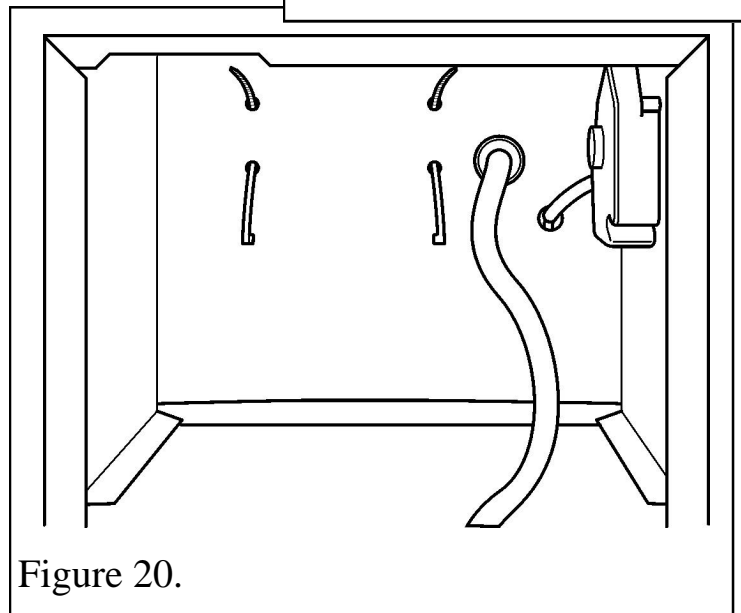

Figure 20.
7. Locate the cable ties supplied in the loose parts pack as in figure 20.